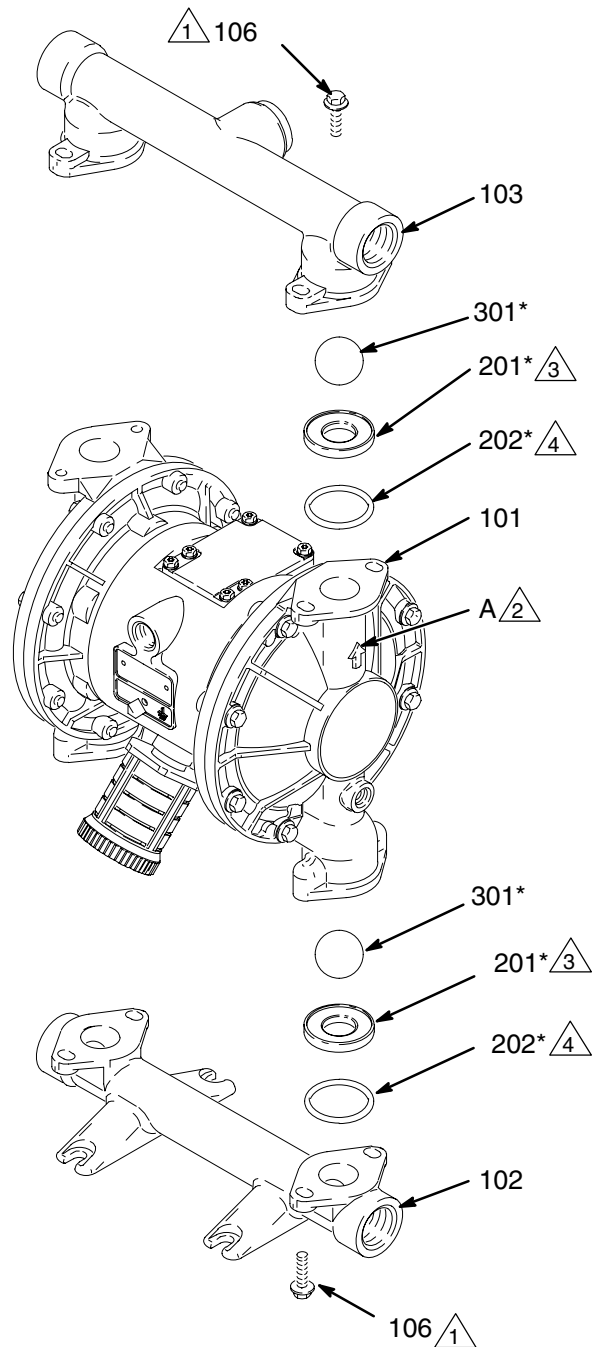

Fig. 12
3. Using a 10 mm socket wrench, remove the four bolts (106) and nuts (114, *used on stainless steel pumps only*) holding the outlet manifold (103) to the fluid covers (101). See Fig. 12.
4. Remove the o-rings (202, *not used on some models*), seats (201), and balls (301) from the manifold (103).
5. Turn the pump over and remove the inlet manifold (102). Remove the o-rings (202, *not used on some models*), seats (201), and balls (301) from the fluid covers (101).
2. Reassemble in the reverse order, following all notes in Fig. 12. Be sure the ball checks and manifolds are assembled **exactly** as shown. The arrows (A) on the fluid covers (101) **must** point toward the outlet manifold (103).
- 2 Arrow (A) must point toward outlet manifold (103).
- 3 Beveled seating surface must face the ball (301).